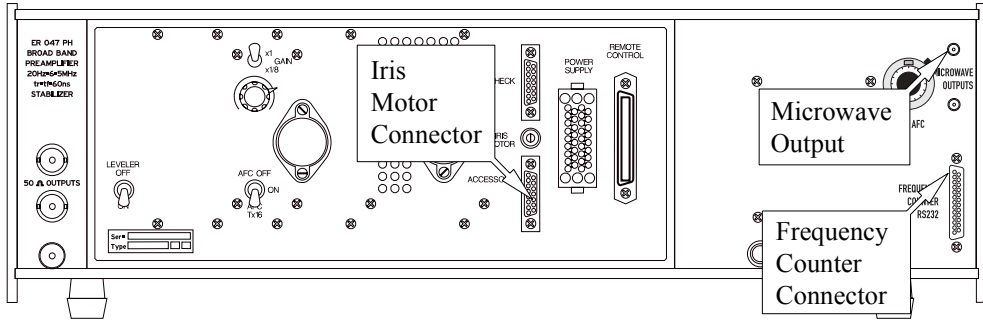

Figure 11-3 Other bridge connections.
7. **Disconnect other connections.** Depending on the bridge, you may have other connections such as an iris motor controller cable, frequency counter cable, FF Lock cable, *etc.* Disconnect all these connections. (See Figure 11-3.)